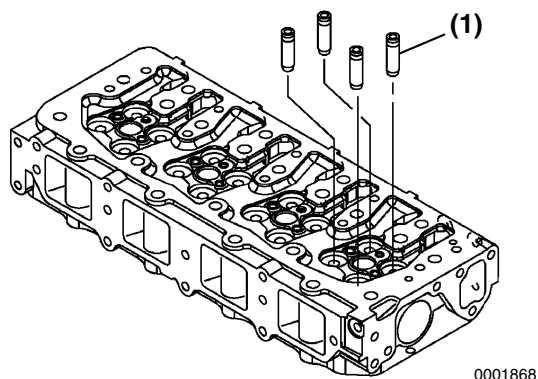

Figure 6-47
1. Using a drift pin and hammer, drive the valve guides **(Figure 6-47, (1))** out of the cylinder head.